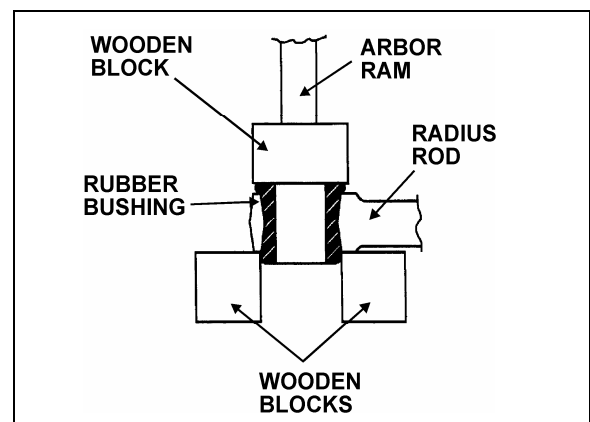

FIGURE 36: RADIUS ROD BUSHING INSTALLATION 16012
2. Safely support the radius rod, and place new bushing on top of the radius rod end (Fig. 36).
1. Lightly spray the radius rod support with water. Place the radius rod end over the radius rod support (Fig. 36).